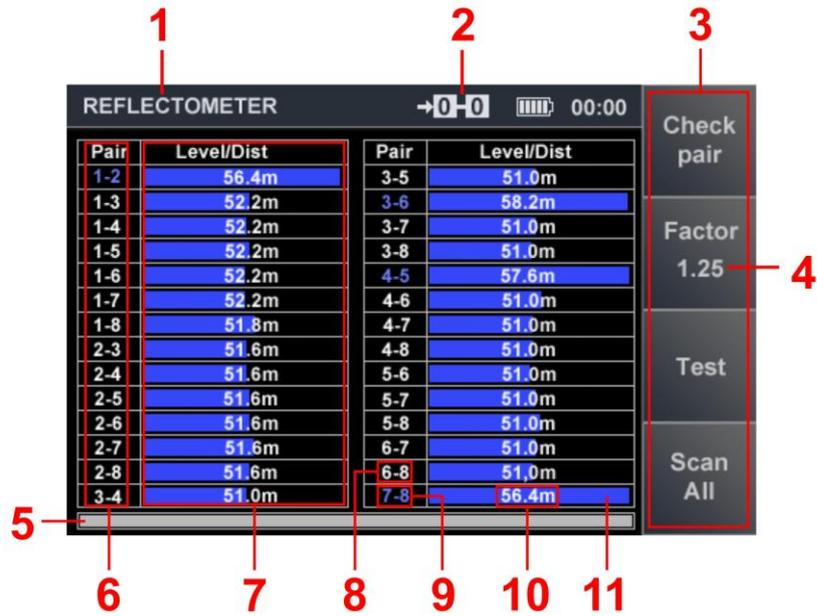

Fig.51
Turning on is made from the Analyzer main menu (item 3.2). Select the REF and press "ENTER". REF main menu shown at Fig.51:
In Fig.51:
The new Shortening Factor value will be display in the "F2" field (Fig.51, item 4). This value remains unchanged until the next setting or power off.
To turn on the mode, in the REF main menu, press "F4" ("Scan All"). The tabular cursor is set to one of the rows of the table (Fig.51). Measurement begins. In the "Level/Dist" cell, "running points" appear.
After finishing the measurements, the response level (Fig.51, item 11) and the distance to the heterogeneity, the response from which has the highest level (Fig.51, item 10) are displayed in the cell.
If there is a voltage of more than ± 3 V on the connected pair of wires, this pair cannot be tested using the REF. This blocking voltage is indicated by the "OVER" icon on the indicator of the connected pair of wires (Fig.51, item 2).